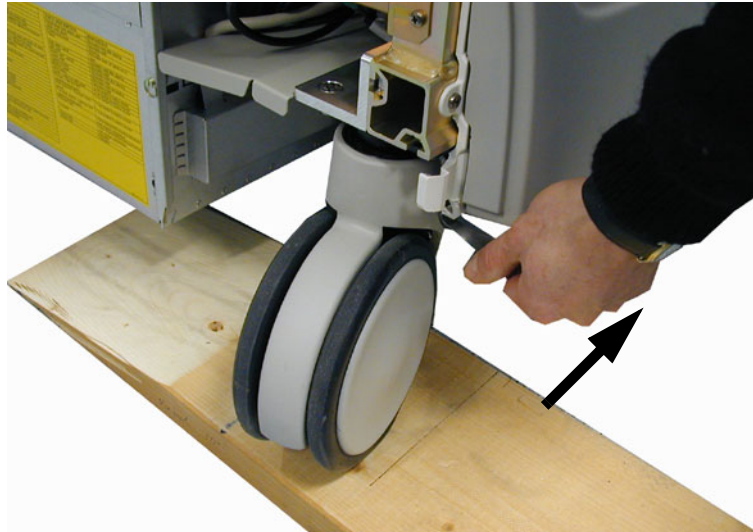

Figure 8-91 Activate Rear Brakes
- 6.) Turn the Rear Caster that stands on the Bevel Edged Board in the direction as shown in Figure 8-91.